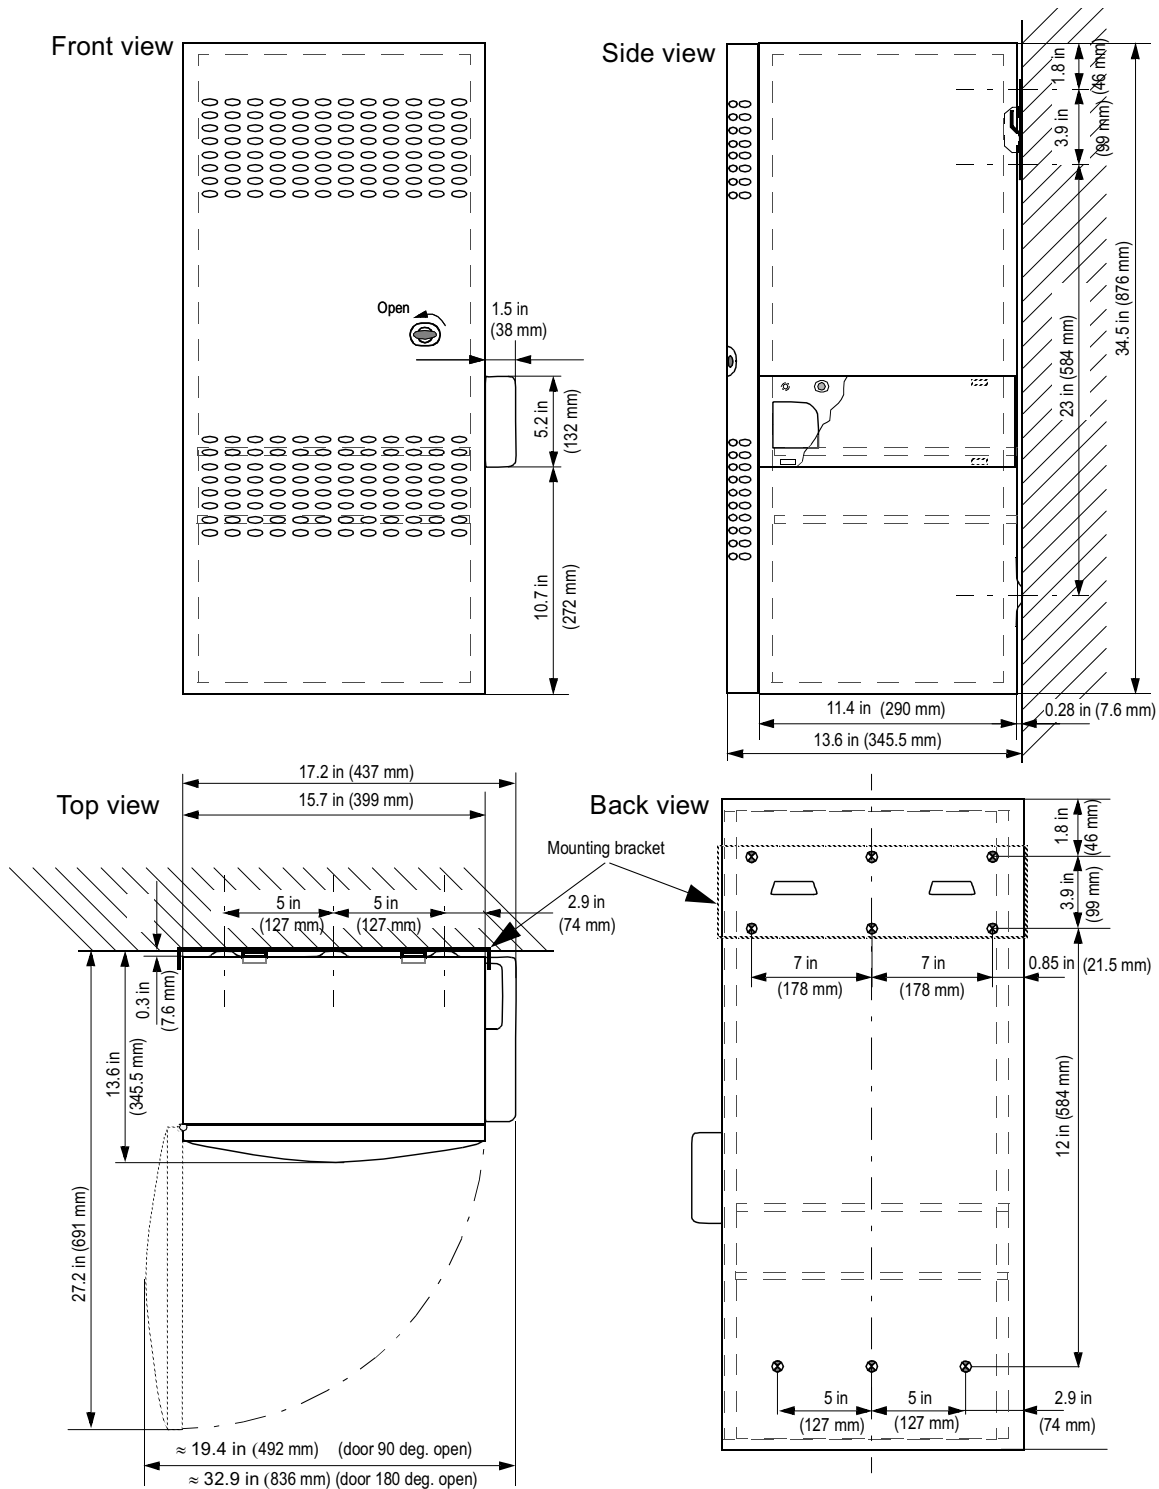

Figure 4-1 ONU mounting dimensions in [mm] and wall layout for mounting
- Step 2 Ensure that there is at least 32 in (800 mm) free space in front of the ONU you are mounting, as measured from the wall or plywood board. Refer to Figure 4-1 for ONU dimensions.